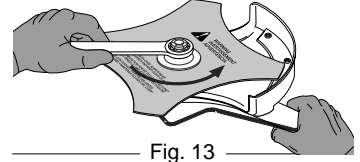

Fig. 13
- ¥ Without a torque wrench, use a 13 mm closed-end or socket wrench, turning the nut until the blade retainer is snug against the shaft bushing. Make sure that the blade is installed correctly, then rotate the nut an additional 1/4 to 1/2 turn counterclockwise (Fig. 13).